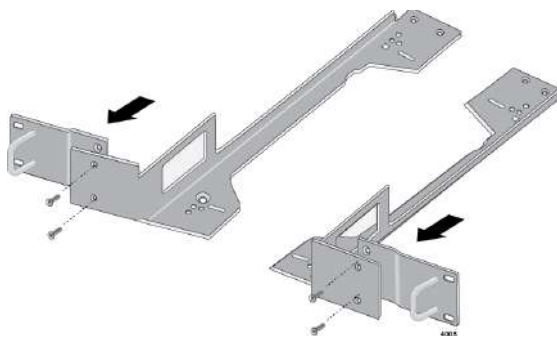

Figure 25. Attaching Brackets to Plates
4. Attach the short bracket and handle to the long bracket with M4x6mm screws using a Phillip-head screw driver as shown in Figure 25.